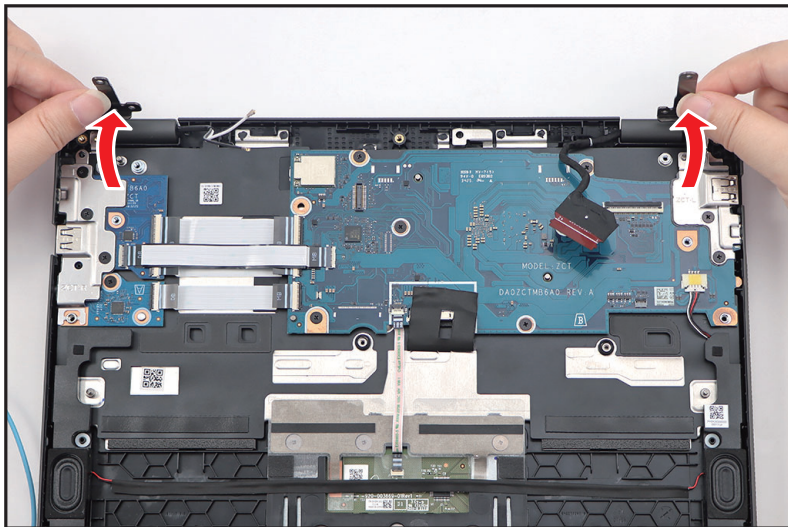

Figure 1-26. LCD Module Removal
5. Close the top assembly and lift both LCD hinges until they are fully extended (Figure 1-26).